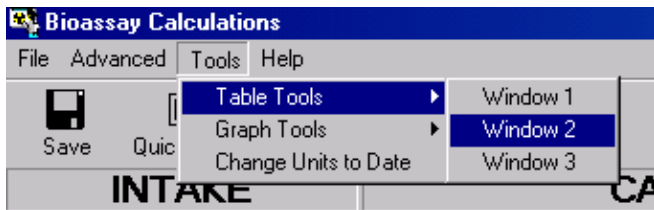

Figure 4.8. Drop-down list of **Bioassay Quantity** windows for using **Table Tools**.
- **Table Tools** - Enable you to open the Table Tool (spreadsheet-like facility) to enter and/or edit bioassay data, sample time (or date), and sample duration (for urine and feces), for any **one** of the three **Bioassay Quantity** windows (see Figure 4.8).